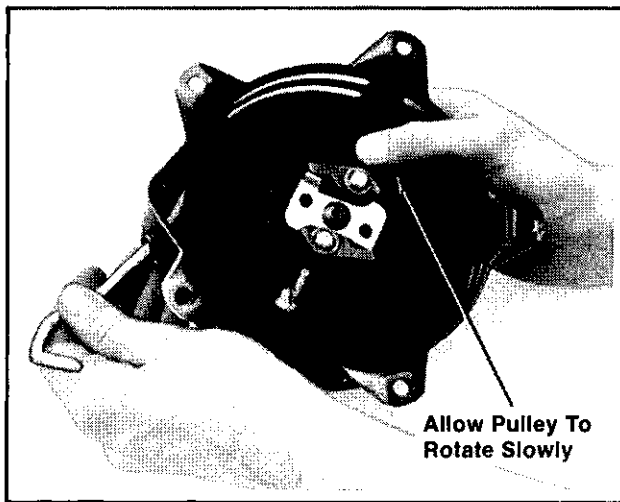

Figure 7-5. Releasing Spring Tension.
4. Hold the pulley firmly with thumb and untie the slip knot. Allow the pulley to rotate **slowly** as the spring tension is released. Refer to Figure 7-5.